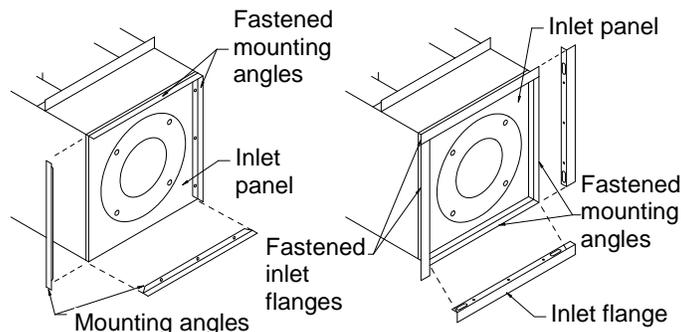

Figure 4. Mounting inlet flanges for sizes 13 and 18 only.
**Mounting angle installation.** Place one of the mounting angles on the front of the inlet panel. Position it so that the leg without holes is flush with the side of the inlet panel. The ends of the mounting angle should line up with the corners of the inlet panel. See Figure 4. Using the self-drilling screws provided, fasten the mounting angle securely to the inlet panel. Repeat this procedure for the remaining angles.
**Inlet flange installation.** Place one of the inlet flanges on the exposed leg of the mounting angle. Position it so that the end with the slot closest to it is flush with the end of the mounting angle. See Figure 4. Using the self-drilling screws provided, fasten the inlet flange to the mounting angle. Stagger the other three inlet flanges around the fan as shown. Fasten securely to the mounting angles.